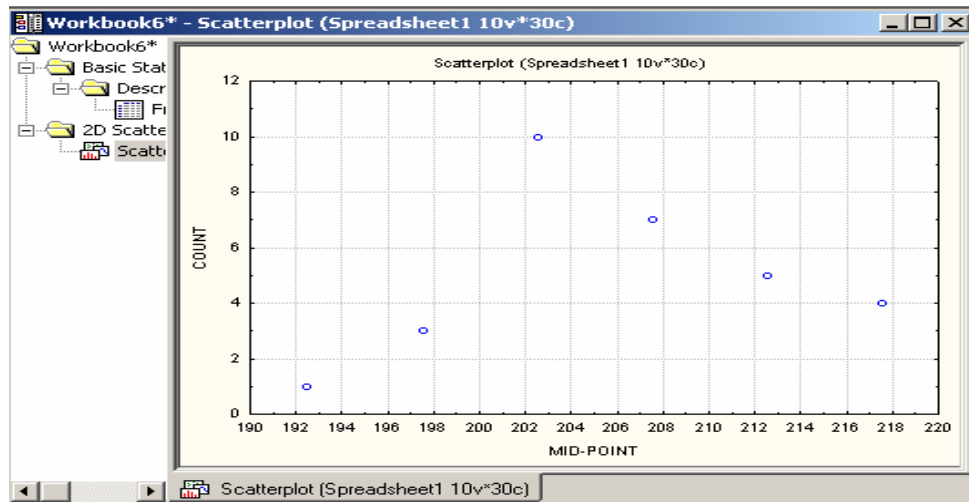

Figure 2.8 Frequency Plots
5. OK, which should give figure 2.8.